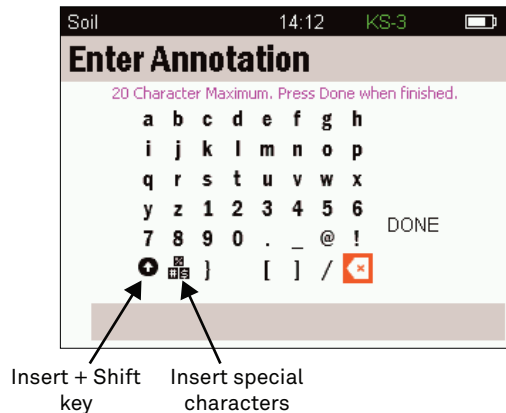

Figure 19 Enter Annotation
b. Rows 1–12 display information found on the Measurement Finished Screen (Figure 19).